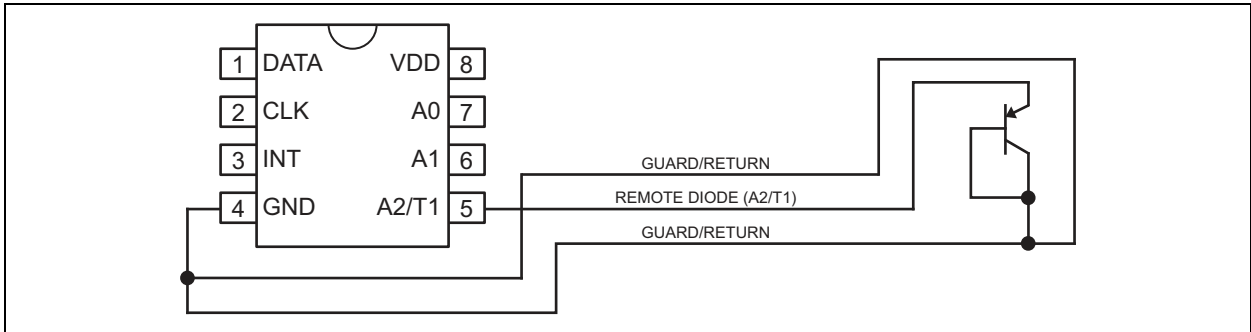

FIGURE 6-1: Guard Traces/Kelvin Ground Returns.
2. Since any conductance from the various voltages on the PC board and the A2/T1 pin can induce serious errors, it is good practice to guard the remote diode's emitter trace with a pair of ground traces. These ground traces should be returned to the MIC184's own ground pin. They should not be grounded at any other part of their run. However, it is highly desirable to use these guard traces to carry the diode's own ground return back to the ground pin of the MIC184, thereby providing a Kelvin connection for the base of the diode. See Figure 6-1.
3. When using the MIC184 to sense the temperature of a processor or other device which has an integral on-board "diode" (e.g., Intel's Pentium® III), connect the emitter and base of the remote sensor to the MIC184 using the guard traces and Kelvin return shown in Figure 6-1. The collector of the remote "diode" is inaccessible to the user on these types of chips. To allow for this, the MIC184 has superb rejection of noise appearing from collector to GND, as long as the base to ground connection is relatively quiet.